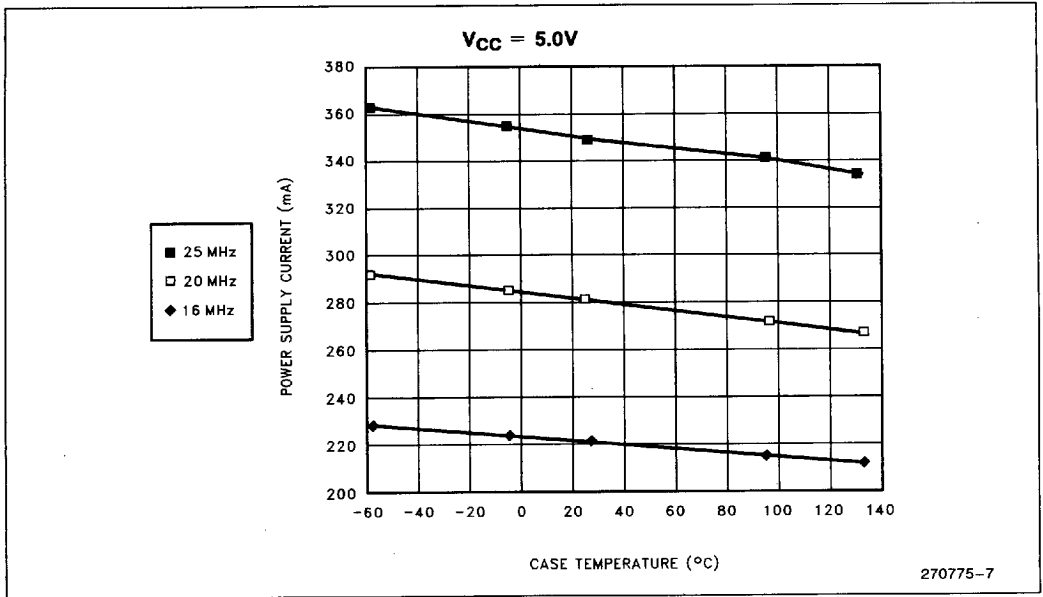

Figure 7. Typical Supply Current vs. Case Temperature
Figure 7 shows typical supply current requirements over the operating temperature range of the processor at supply voltage ( $V_{CC}$ ) of 5V. Figure 8 and Figure 9 show the typical power supply current ( $I_{CC}$ ) that the 80960KA requires at various operating frequencies when measured at three input voltage ( $V_{CC}$ ) levels and two temperatures.
5. Measured at worst case frequency,  $V_{CC}$  and temperature, with device operating and outputs loaded to the test conditions in Figures 12 and 13. Figure 7, Figure 8 and Figure 9 indicate typical values.